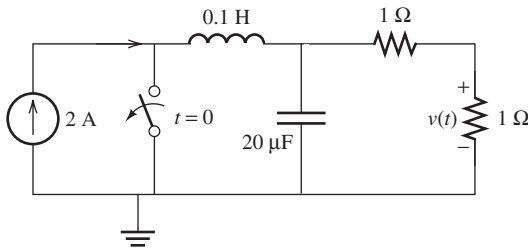

FIGURE P5.37 Circuit for Problem 5.37.
5.37 (A) Consider the circuit shown in Figure P5.37. The switch is opened at $t = 0$, find $v(0^+)$ and $v(\infty)$.